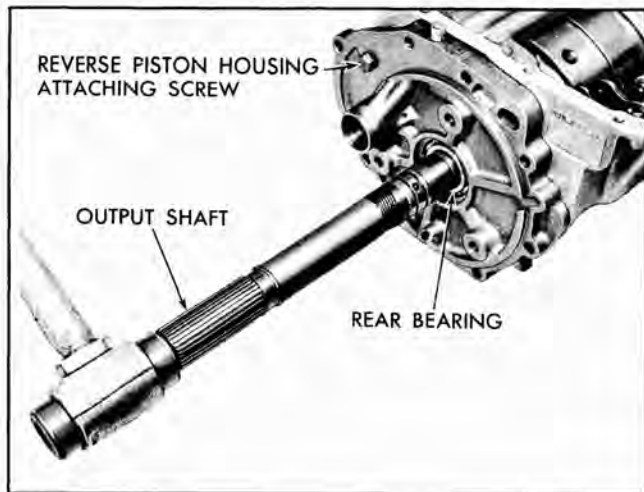

Fig. 60 Freeing Output Shaft
9. Tap rear end of output shaft with soft hammer to free shaft from rear bearing inner race (Fig. 60). Make sure parking brake pawl is not engaged.